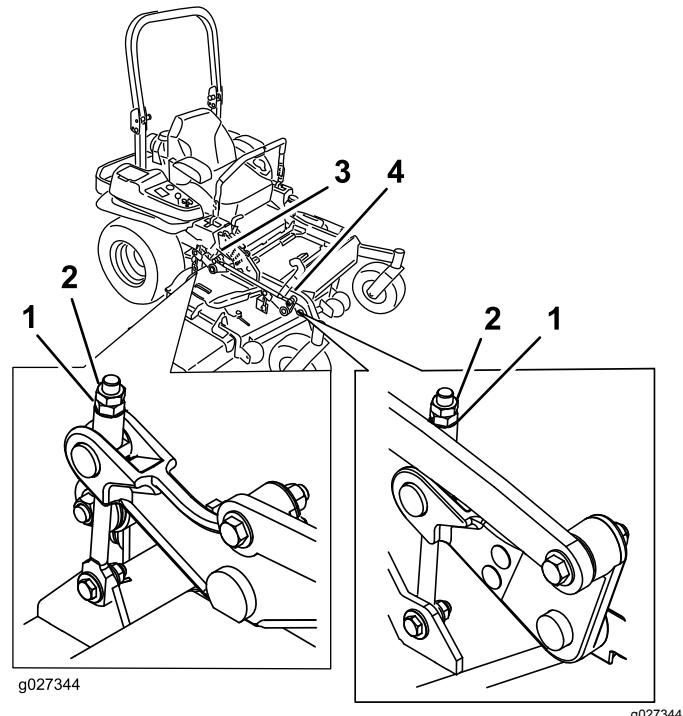

Figure 100
10. Fine-tune the adjustment nut on the front deck-lift assembly by turning it (Figure 100).
16. Fine tune the screw adjuster by turning it to get 8.3 mm (3-1/4 inches) height (Figure 100).